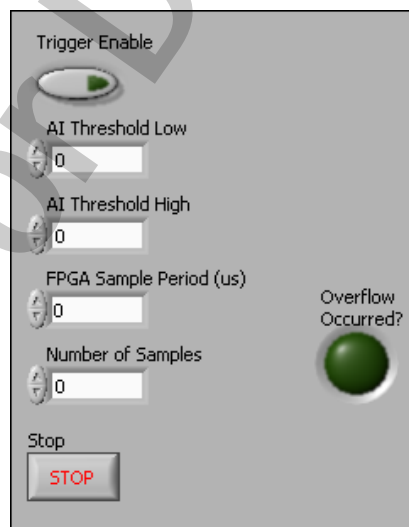

Figure 9-6. Custom Trigger AI VI Front Panel
7. **Modify Custom Trigger AI Front Panel**, as shown in Figure 9-6.